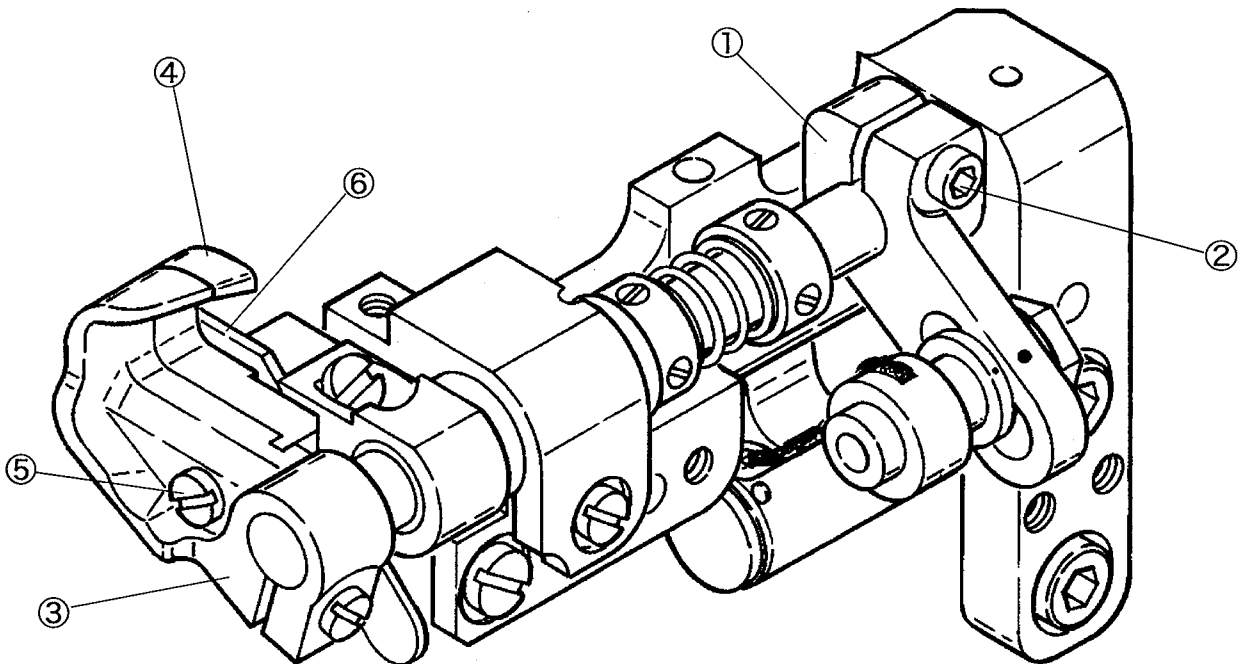

Fig. 72
- (1) Loosen the nut ② of the adjusting lever pin ①.
- (2) Move the adjusting lever pin ① to adjust it.
- (3) Tighten the nut ② securely.
- (4) Loosen the screw ④ of the upper knife adjusting lever ③.
- (5) Rotate the handwheel by hand to move the upper knife ⑥ at the lowest point. Move the upper knife holder ⑤ to set the upper knife ⑥ tip 0 - 0.5 mm above the top of the lower knife ⑦. (See Fig. 72)
- (6) Check the sharpness of the blades by setting a thread between the upper ⑥ and the lower ⑦ knives while rotating the handwheel by hand.